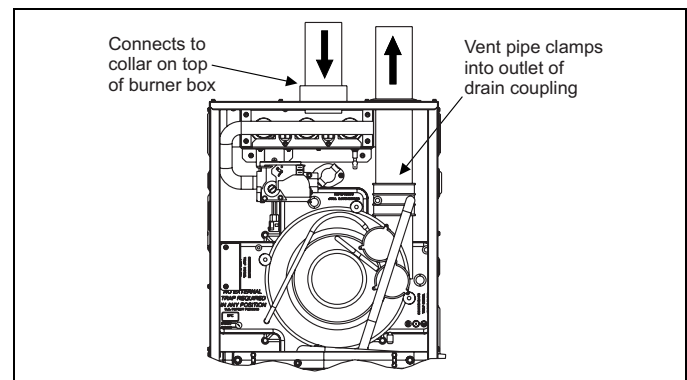

Figure 37: Direct vent air intake connection and vent connection
1. **Outdoor combustion air:** This is a direct vent configuration where the combustion air is supplied through a PVC, CPVC, or ABS pipe that is connected to the coupling attached to the furnace and is terminated in the same atmospheric zone as the vent. This type of installation is approved on all models. See Figure 37.
This installation requires combustion air to be brought in from outdoors. This requires a properly sized pipe (Shown in Figure 37) that will bring air in from the outdoors to the furnace combustion air intake collar on the burner box. The second pipe (Shown in Figure 37) is the furnace vent pipe.